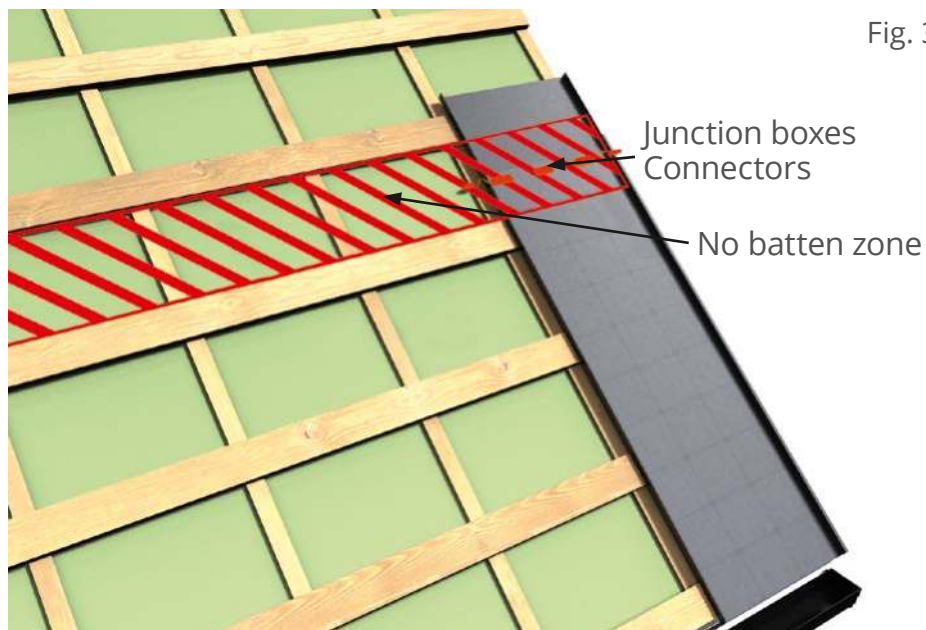

Fig. 3
**1.4** The **junction boxes** under each panel **must fit between two battens, without touching either (Fig. 3)**. The junction boxes are located behind the Roofit.solar panels, starting from the edge of the 'active PV area' and ending 50 mm below the 'active PV area' edge.